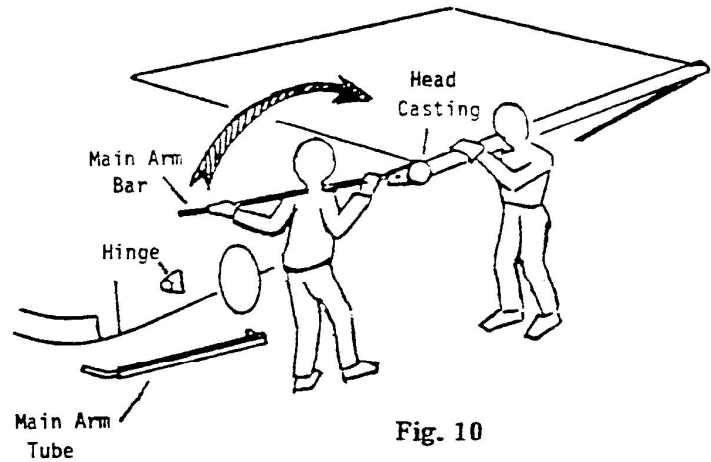

Fig. 10
**Step 7. Wind the Spring** - The Zip Dee roller has only one torsion spring, and it is the largest and strongest in the industry. To wind the spring, support the open awning, disconnect the rear main arm from the coach and slip the tube section off of the steel bar. Using the steel bar as a lever, turn the rear head casting clockwise as shown in Fig. 10, one revolution for each foot of awning length. This is in addition to the 10 turns put on the spring by the initial opening.